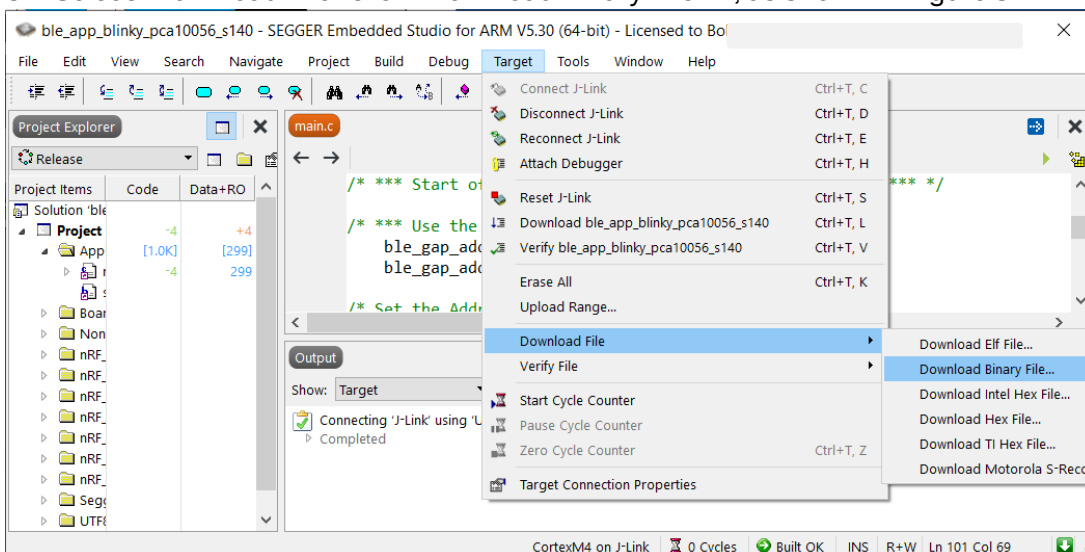

Figure 8: Download device address file with public Bluetooth device address
3. Select “Download File” then “Download Binary File...”, as shown in Figure 8.